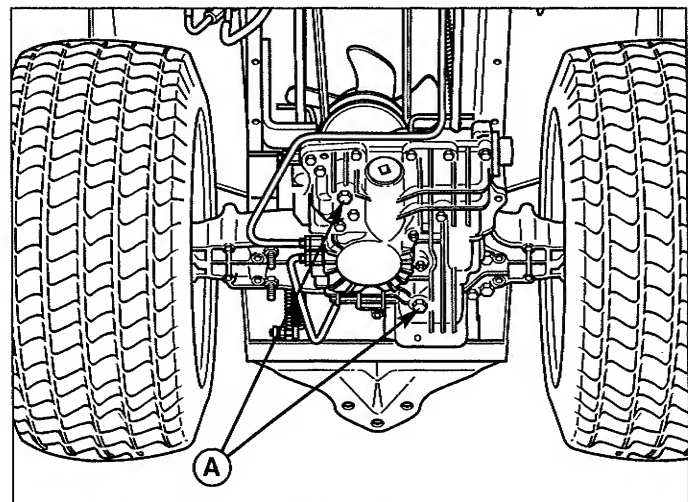
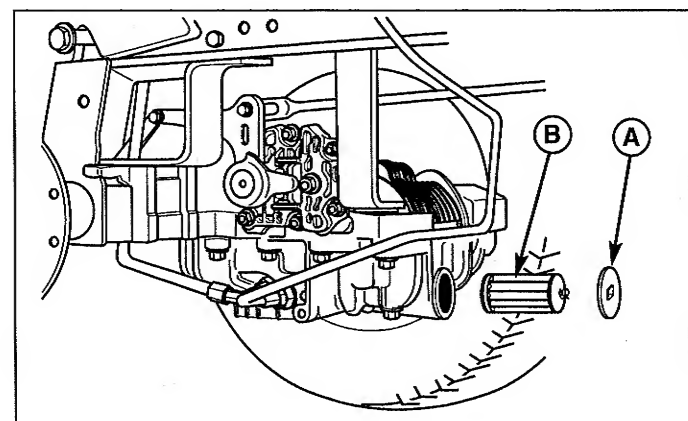

Figure 24. Transmission Drain Plugs
Figure 25. Internal Transmission Filter Service
1. Place a drain pan under the transmission and remove the two 14mm drain plugs (A, Figure 24).
3. Remove the plastic plug (A, Figure 25).
5. Remove and replace the internal transmission filter (B, Figure 25).
6. Reinstall the plastic plug (A, Figure 25) and the two 14mm drain plugs (A, Figure 24).